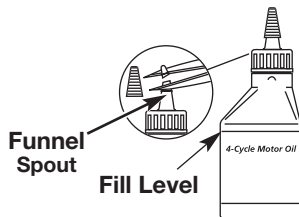

Fig. 9
Your unit is supplied with one 3.04 fluid oz. (90 ml) bottle of SAE 30 SF, SG, SH oil (Fig. 9).
NOTE: Save the bottle of oil. It can be used to measure the correct amount during future oil changes (Fig. 9). See *Changing the Oil*.
1. Unscrew the top of the bottle of oil and remove the paper seal covering the opening. Replace the top. Next, cut the tip off the funnel spout (Fig. 9).